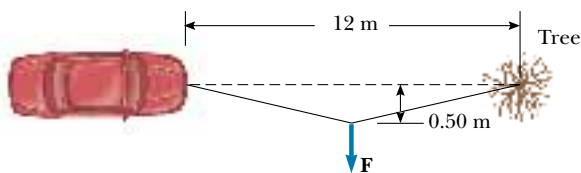

Figure P12.4
4. A student gets his car stuck in a snow drift. Not at a loss, having studied physics, he attaches one end of a stout rope to the vehicle and the other end to the trunk of a nearby tree, allowing for a very small amount of slack. The student then exerts a force \mathbf{F} on the center of the rope in the direction perpendicular to the car–tree line, as shown in Figure P12.4. If the rope is inextensible and if the magnitude of the applied force is 500 N, what is the force on the car? (Assume equilibrium conditions.)